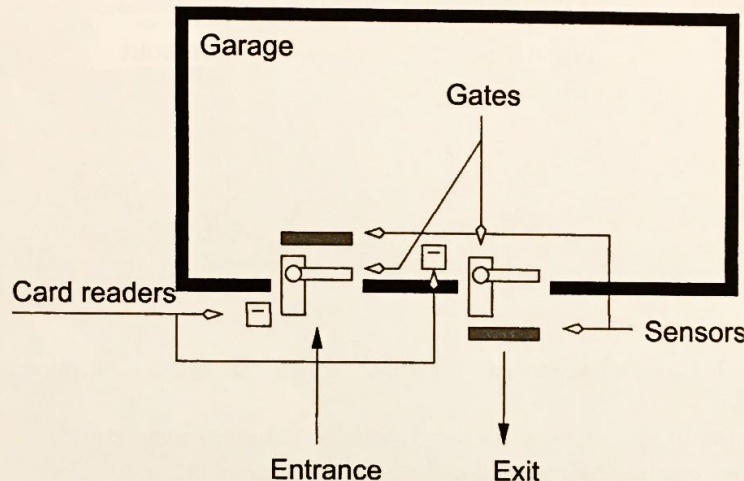

Figure 1: The layout of an automated garage.
1. Design a digital circuit to control access to an automated parking garage containing 828 parking spaces. Drivers pull up to the garage gate and insert their pass card into a card reader. The card reader sends the pass card ID number to the digital circuit. If their pass card has a valid code then the gate opens. There is a pressure sensor just inside the entry way which sends a signal to the circuit whenever a significant load is present (over 150 lbs). The exit procedure is similar, the users have to insert their pass card into a card reader. The digital circuit then raises the exit gate bar, a pressure sensor at the exit tells the circuit when it is OK to close the exit gate. See Figure 1.